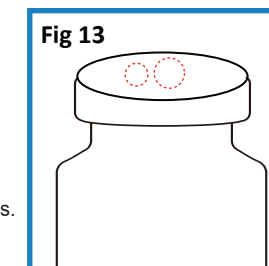

Fig 13
12. Please operate according to the clinical standard of drawing medication from the medicine vial. Please make sure to insert the needle into the "penetration area" of the vial stopper (Fig 13). If the needle is inserted into the area beyond the "penetration area", the needle hub may be moved and the syringe may not be used as expected.